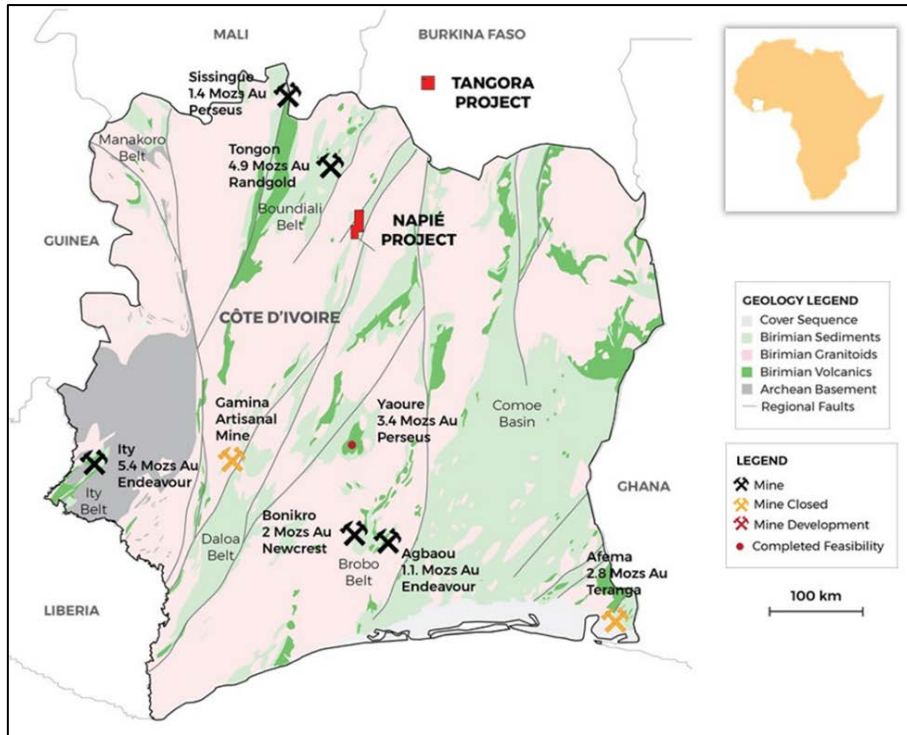

Figure 1: Napié Project location - Côte d'Ivoire
Mako Gold Limited ("Mako" or "the Company"; ASX:MKG) is pleased to report assay results received from the Company's recently completed diamond drilling (DD) program at the Napié Project in Côte d'Ivoire (Figure 1).